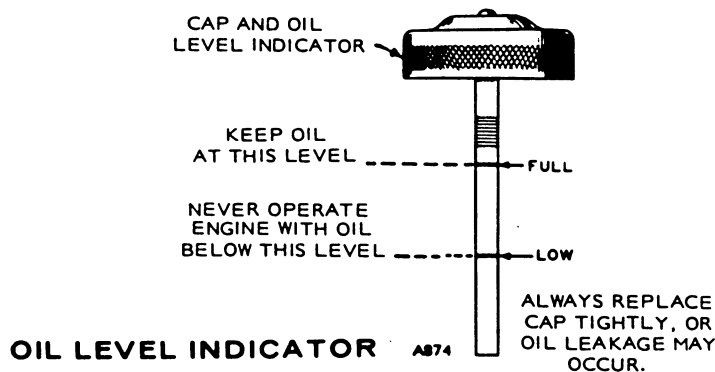

FIGURE 12. OIL LEVEL, GOVERNOR, AND CRANKCASE BREATHER MAINTENANCE
2. Using a feeler gauge, check clearance between rocker arm and valve. See Figure 12.